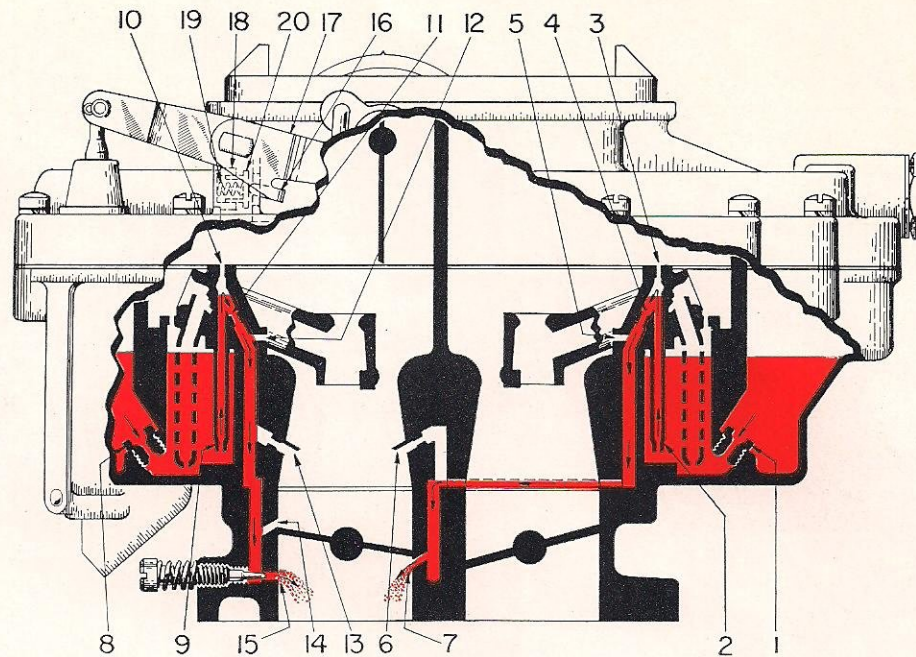

Figure 7-1
A fixed idle system is provided on the secondary or fuel inlet side of the carburetor. This system provides about half the required fuel for normal curb idle mixtures. As shown in figure 7-1, the secondary idle fuel is drawn from the float bowl through the main metering jets (1), into the fuel well in the bottom of the float bowl. It then passes through the calibrated restrictions in the ends of each idle tube (2). The fuel is then drawn up through the idle tube, is bled at the idle bleeds (3), passes through calibrated restrictions (4) and is again bled by the calibrated bleeds shown at (5). The mixture is then drawn through the channel in the float bowl around the secondary throttle body bores, is further bled by the lower idle air bleeds (6) and is discharged from the throttle body idle orifice (7). As the throttle is opened, the vacuum or suction on the idle discharge holes (7) decreases very rapidly. These discharge holes, therefore, stop feeding fuel in the off idle range.
In addition, an adjustable idle system is provided on the primary or pump side of the carburetor. This system provides the balance of fuel required for normal curb idle as well as that required for operation in the off idle, low speed range. Refer again to figure 7-1. The primary idle fuel is drawn from the float bowl through